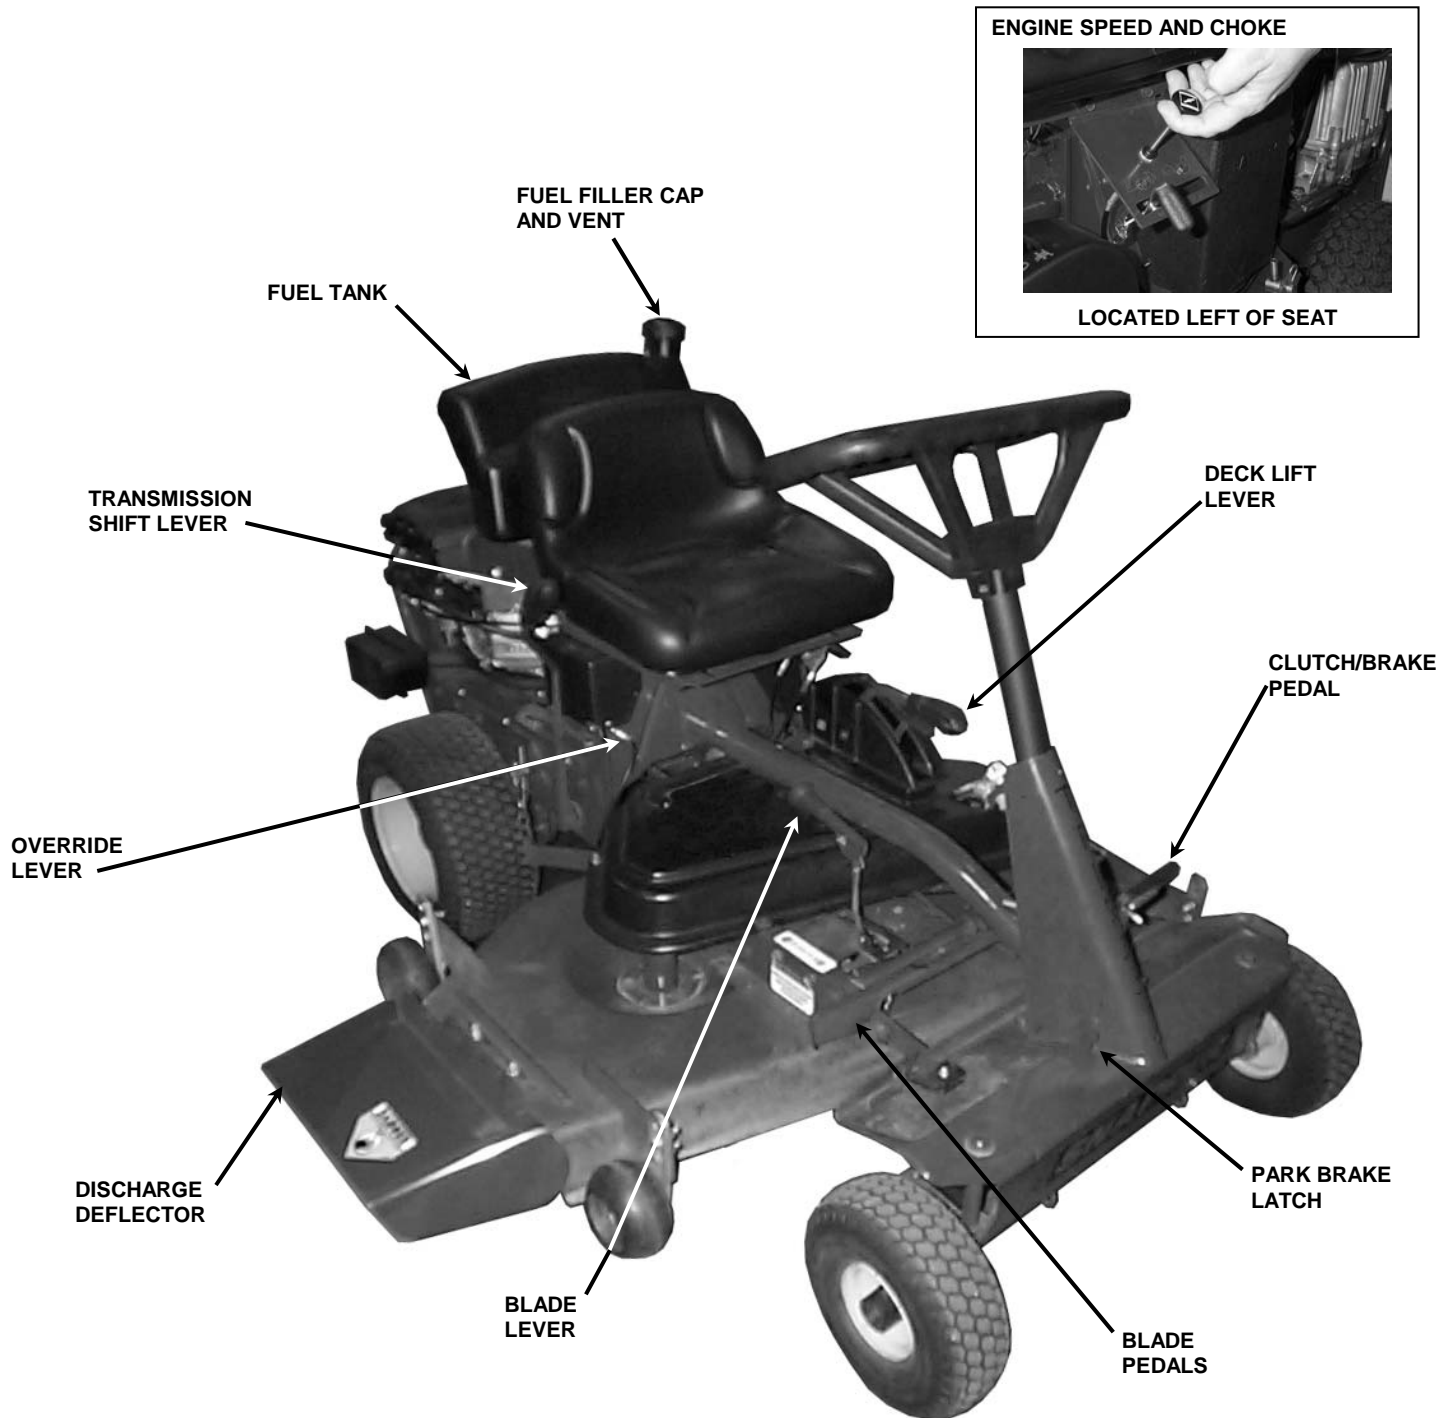

FIGURE 1.1
The nomenclature drawing above, Figure 1.1, shows the essential parts of the SNAPPER Rear Engine Rider. It is recommended that all operators of this equipment become thoroughly familiar with the controls, components, and operation of this machine before operating. Specific details involving the engine are found in the separate engine owner's manual. Study these manuals before operating and keep both handy for future reference.
5. Move engine speed control to the "FAST" position and pull choke "OUT" to start a cold engine. See Figure 1.1.
5. Move engine speed control to the medium position and the choke control is in the choke position to start a cold engine. See Figure 1.1.